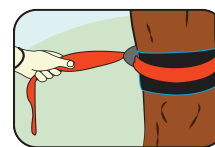

Figure 4
- Take Slackline walking line and wrap around the opposite tree and tighten keeping line flat and not twisted ((Figure 4).